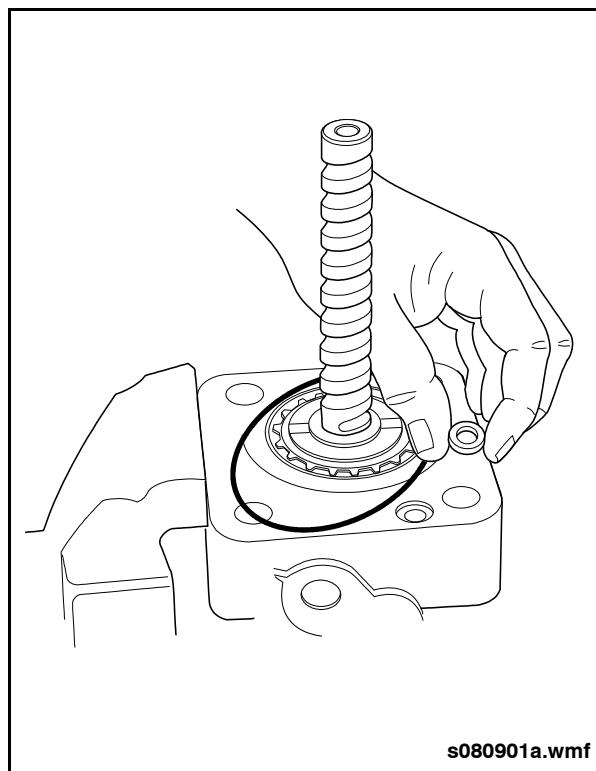
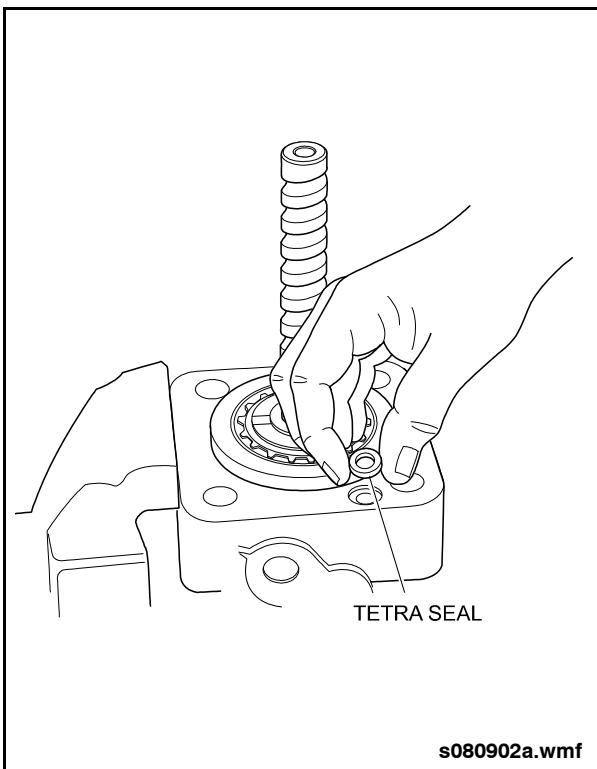

Fig. 3-24: Seal Ring Installation
Fig. 3-25: Tetra Seal Installation
5. Lightly coat new seal ring and tetra seal with grease and install on bearing cap. See "Fig. 3-24: Seal Ring Installation" on page 40. See "Fig. 3-25: Tetra Seal Installation" on page 41.